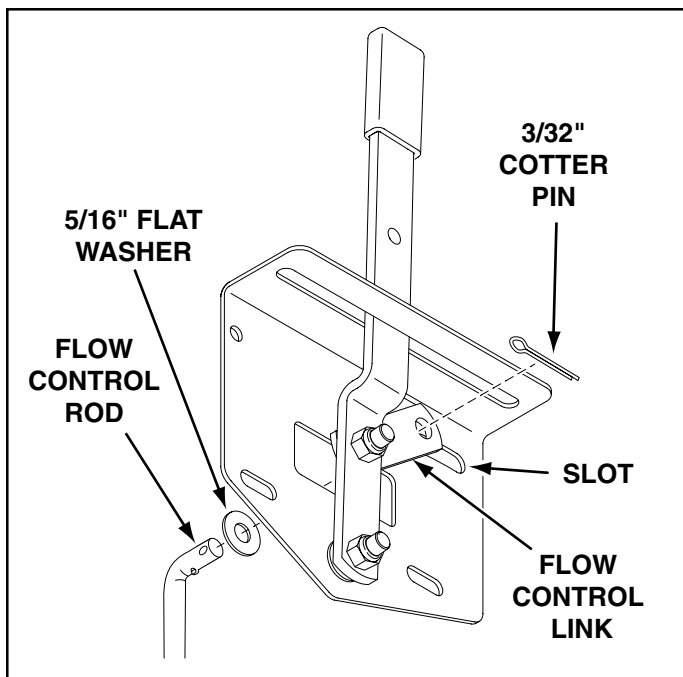

FIGURE 9
18. Place a 5/16" flat washer onto the end of the flow control rod. Insert the end of the flow control rod through the slot in the flow control mounting bracket and through the hole in the flow control link. Secure with a 3/32" x 3/4" cotter pin. See figure 9.